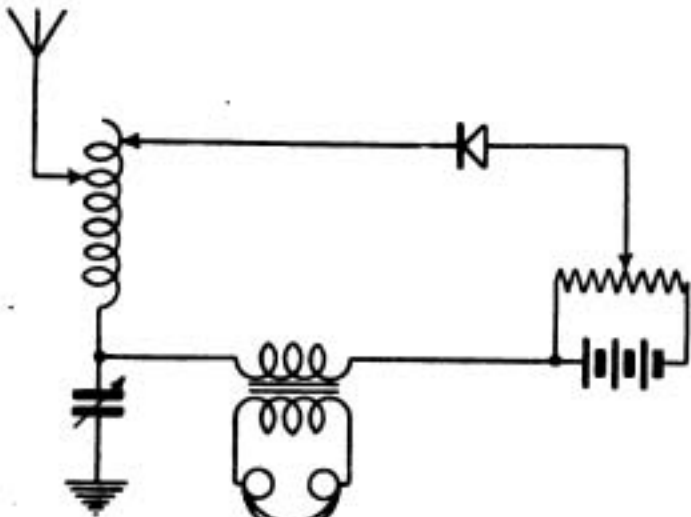

Fig. 4.
(1) See Fig. 4. (2) Yes. See March, 1920, issue, but wind low resistance coil with 5 oz. of No. 34, instead of 6 oz. of No. 30. (3) 4-volt dry cells of quite small size. (4) Perhaps nearly 1,000 ms. For more useful results increase size of coil considerably, say to 10" × 6".